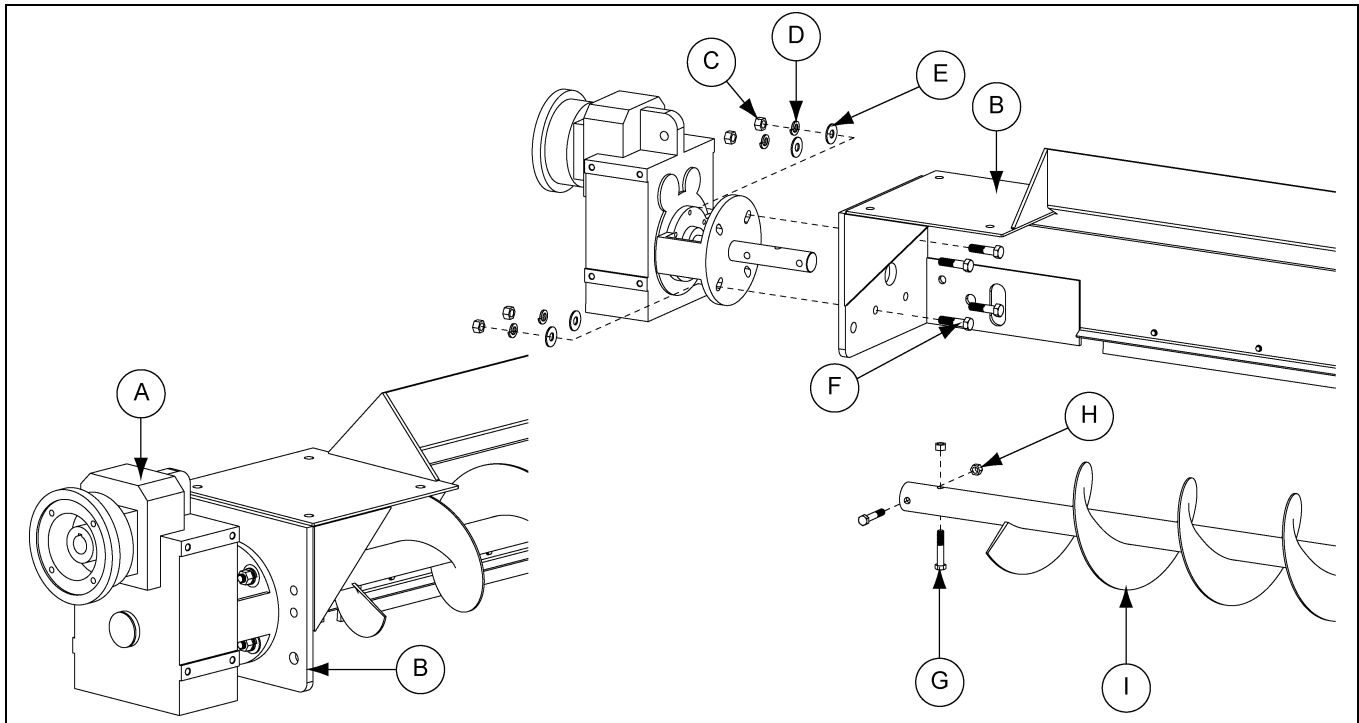

Figure 7V
1. Slide the output shaft of the gearbox (A) through the end plate of the head section (B) and into the end of the head flight section (I).
2. Bolt the gearbox to the end plate of the head section using hex bolts (F), flat washers (E), lock washers (D) and hex nuts (C). *(See Figure 7V.)*
3. Secure the gearbox output shaft to the head flight section (I) with hex bolts (G) and lock nuts (H). *(See Figure 7V.)*